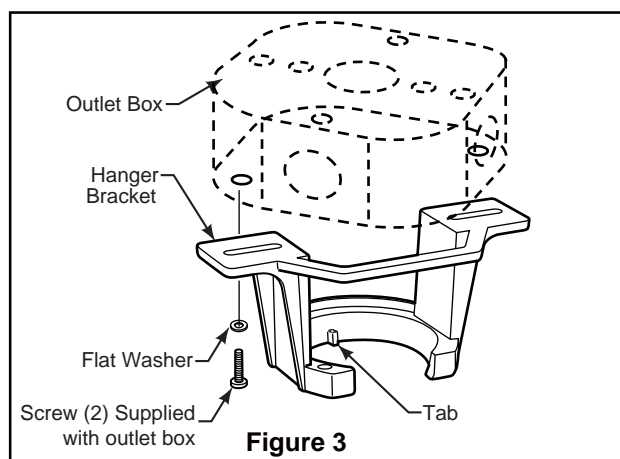

Figure 3
1. Securely attach the hanger bracket to the outlet box using the outlet box screws and flat washers supplied with the outlet box. (Figure 3)